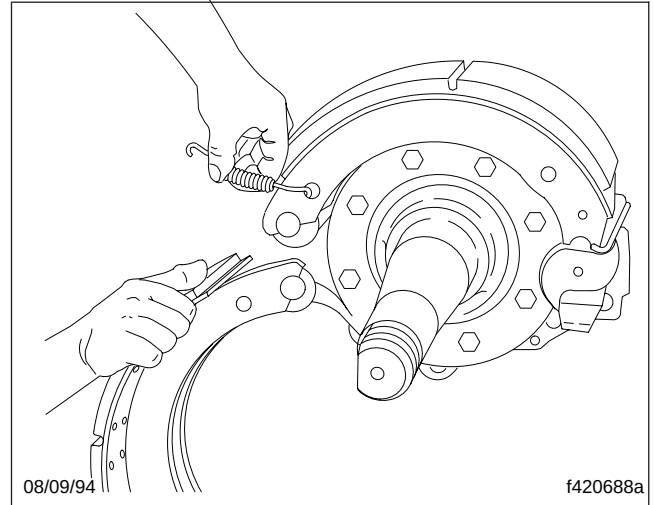

Fig. 6, Brake Shoe Retaining Spring Installation
- 1.2 Place the upper brake shoe in position on the upper anchor pin. Hold the lower brake shoe vertically against the lower anchor pin and install two new brake shoe retaining springs to link the upper and lower brake shoes. See Fig. 6.